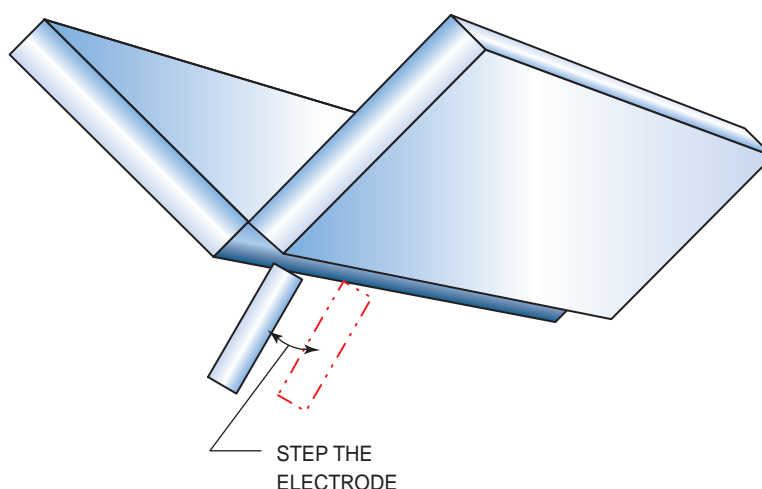

FIGURE 9-67 Stepping the electrode to control weld size.
- Use the stepped pattern and move the electrode forward slightly when the molten weld pool grows to the correct size, **Figure 9-67**.